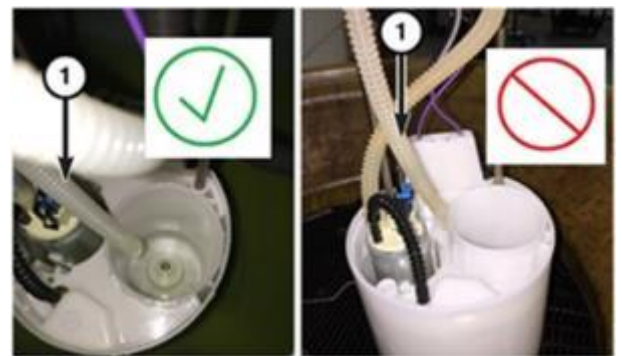

Figure 82 – Fuel Return Tube
- 152. Make sure the fuel return tube (1) is inside the cup (Figure 82).